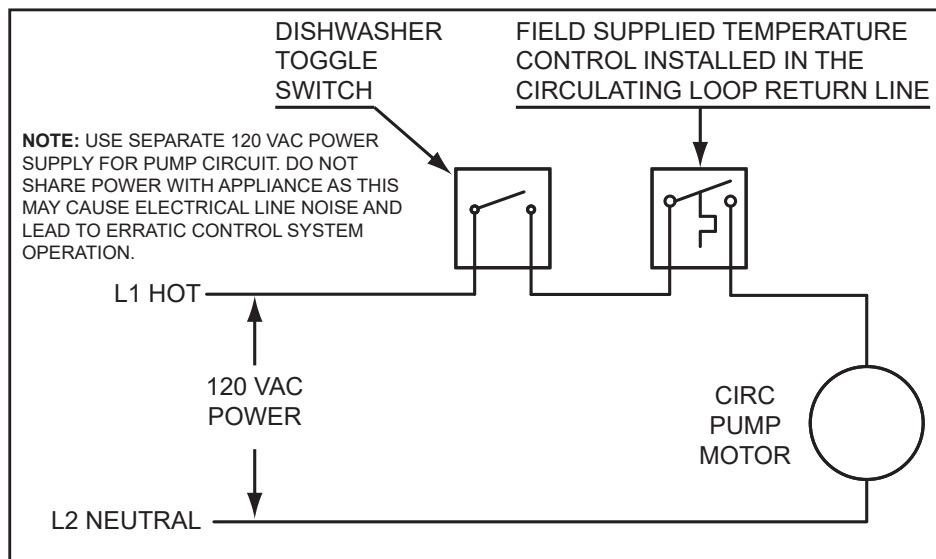

Figure 84. Recirculating Loop with Dish Washer and Toggle Switch
7. If a pump is being installed in a recirculation loop between the water heater and a commercial dishwasher wire according to *Figure 84* (page 99).
7. If a pump is being installed in a recirculation loop between the water heater and a commercial dishwasher wire according to **Figure 84** (page 99).